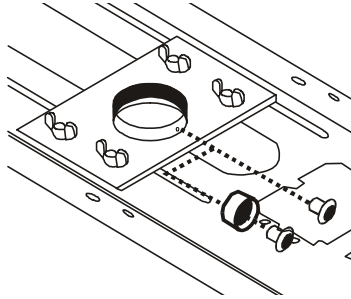

Figure 23: Securing the SV-CL Column
6. Using a hex key, secure the **SV-CL** Column by firmly tightening either the screw or the security screw with a locking collar against the column (see Figure 23).